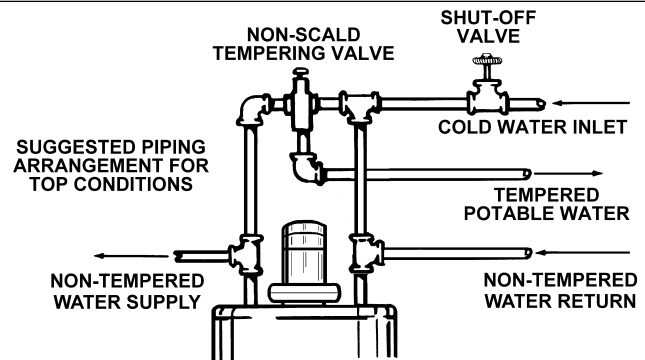

FIGURE 7
4. When the system requires water for space heating at temperatures higher than required for domestic water purposes, a tempering valve must be installed, see Figure 7 for suggested piping arrangement.